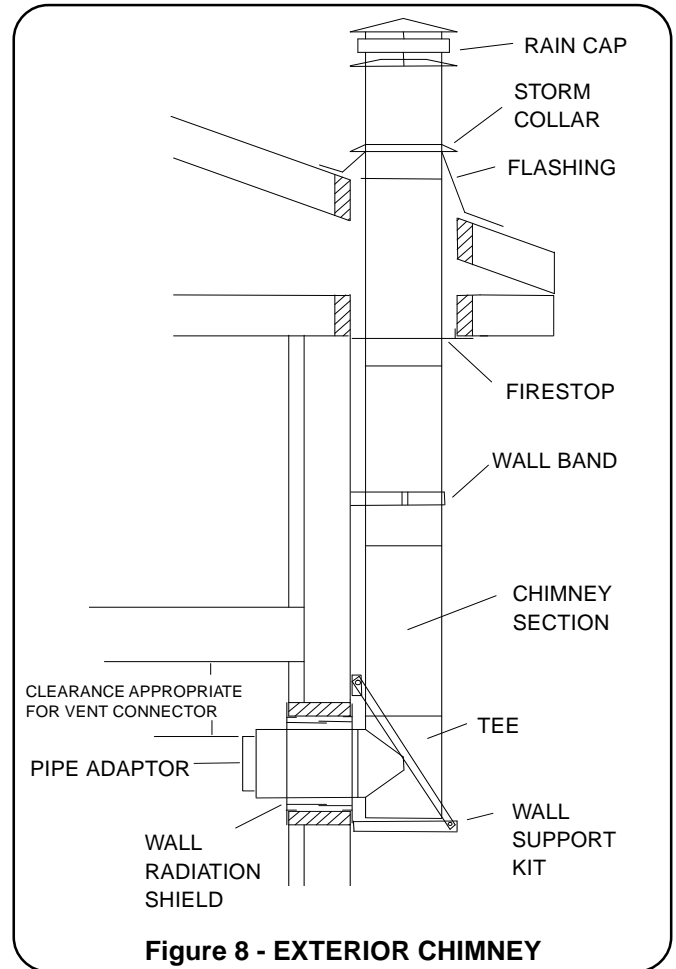

Figure 8 - EXTERIOR CHIMNEY
- 3.2. From inside the house, cut a hole through the wall. Remember to maintain clearance between the ceiling and Chimney connector pipe. See Figure 8.